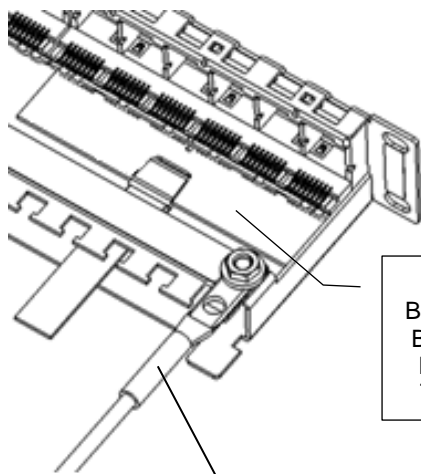

Fig. 5
Install 4 continuity boards in the slot below the contacts on the bezel. Continuity boards (or E-module) are required to maintain continuity on the permanent link (See Fig.5). FAILURE TO INSTALL CONTINUITY BOARDS WILL RESULT IN OPEN PAIRS.
1. Individually ground (earth) each patch panel to cabinet ground (earth) position by securing grounding lug to panel grounding stud (see Fig. 5).